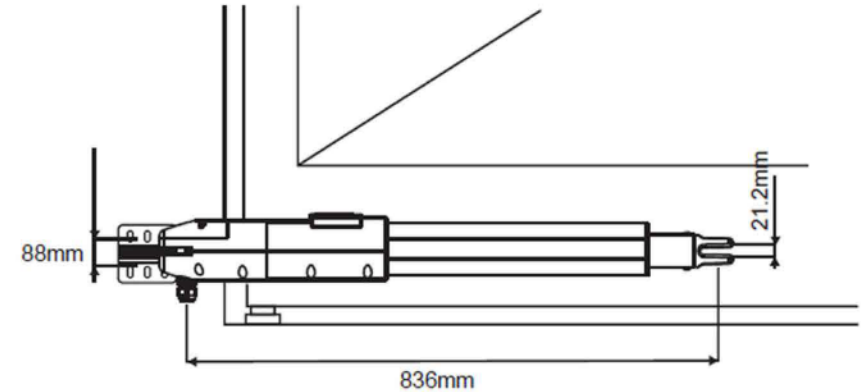

FIGURE 23
- 7 Refer to the distance of "B" in figure 17, place the rear plate in the correct position on the mounting surface. Inspect if the distance is proper as shown in Figure 23 i.e. the position the front plate of the motor to be installed.
- 10 Refer to Figure 23, the distance between front plate of the motor and rear plate is 836mm, the difference in height is 21.2mm.